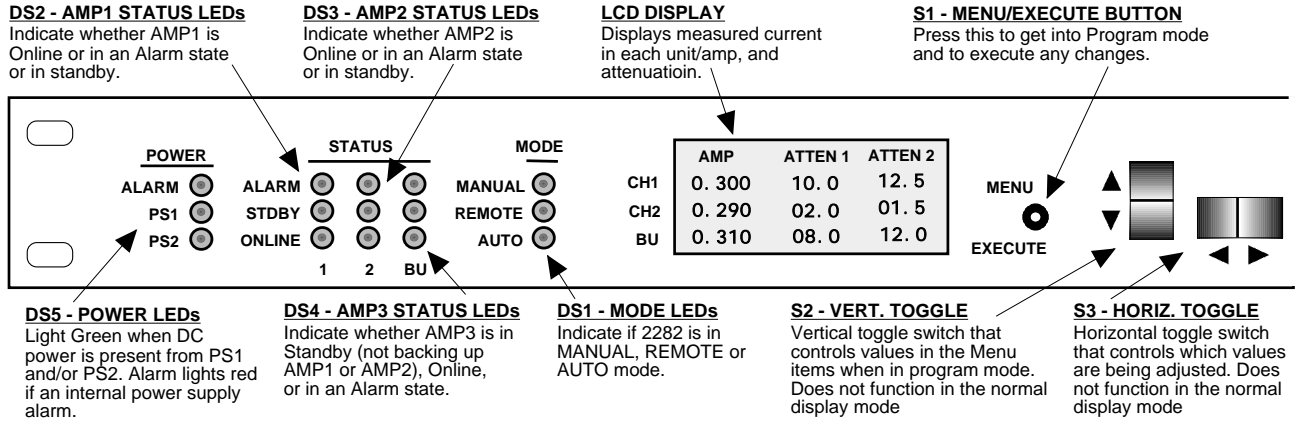

FIGURE 2.2 2282-122-23 Front Panel Controls and Indicators
Figure 2.2 shows the front panel controls and indicators.
3. Be sure DS8 & DS9 (green, DC Power) are on and red Alarm indicators are off (Figure 2.2).
Alarm indications appear on the LEDs (See figure 2.2).